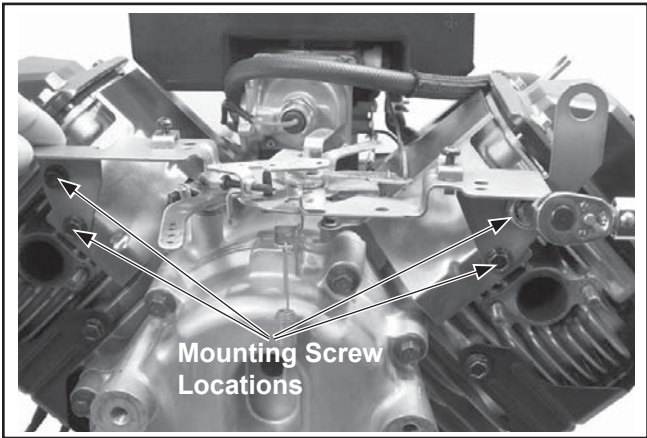

Figure 10-77. Throttle/Choke Control Bracket Mounting Detail.
- 2. Install the main control bracket to the cylinder heads using the four hex flange screws. The two lower screws should also secure the inner baffles. Torque the screws to 10.7 N·m (95 in. lb.) into new holes, or 7.3 N·m (65 in. lb.) into used holes. See Figure 10-77.